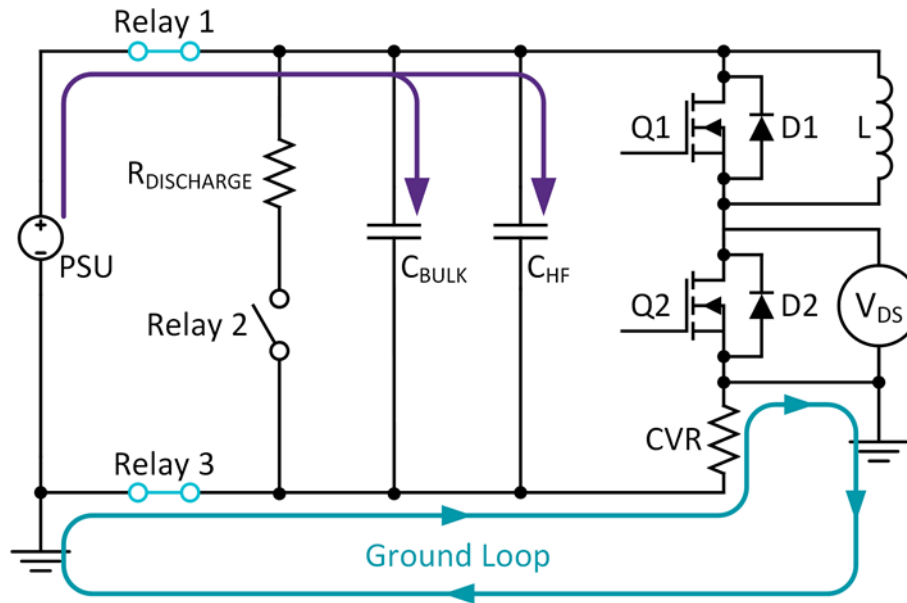
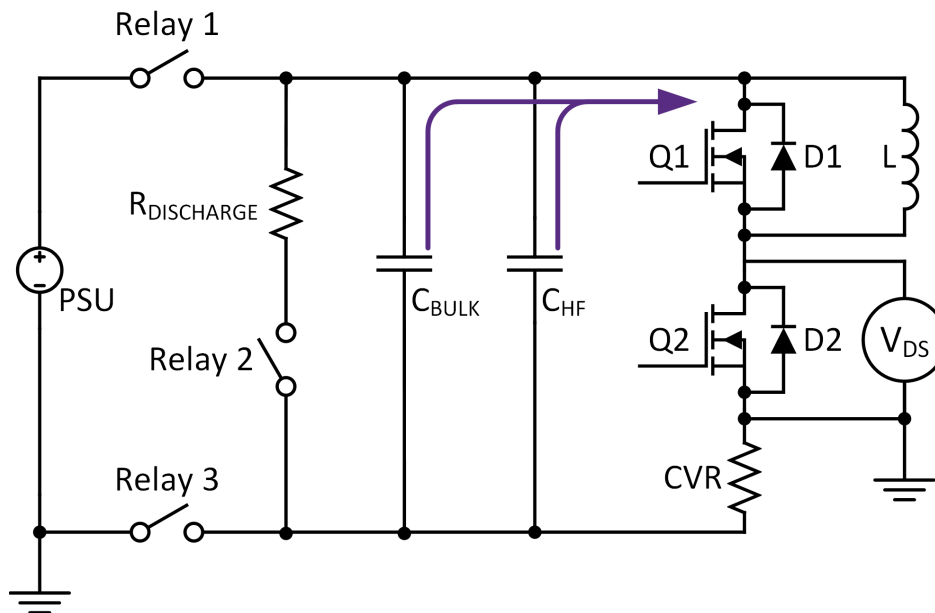
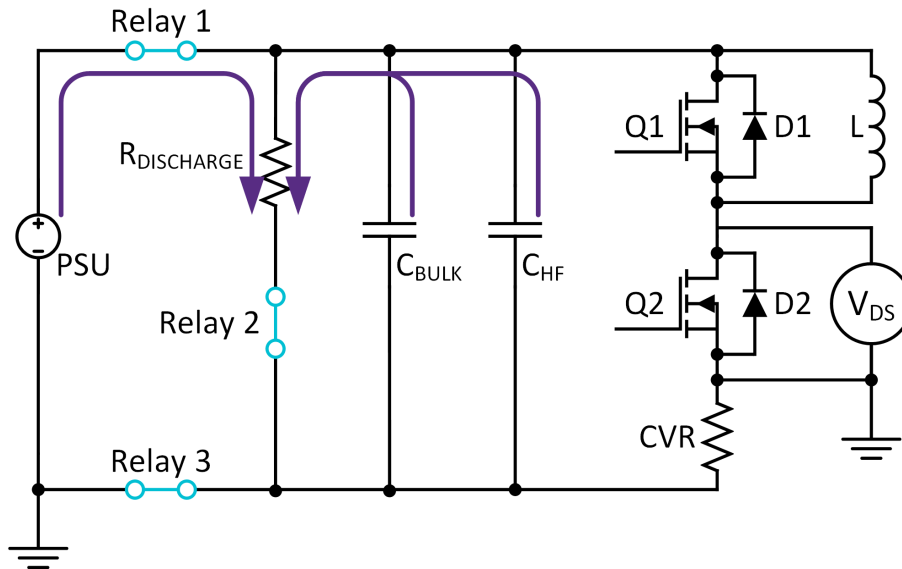

Figure 30: CIL Test Fixture Schematic During the CHARGE State
Figure 31: CIL Test Fixture Schematic During the TEST State
Figure 32: CIL test Fixture Schematic During the DISCHARGE State
Because the power supply is non-isolated, high-voltage relays are needed to open the ground loops formed due to the measurement circuitry and to charge/discharge the bulk energy storage. If ground loops are not properly removed, the resulting measurements will be significantly impacted. For safety, normally closed relays should be used in case of a loss of control power. Furthermore, a large bleed-off resistance is connected directly across the bulk capacitors on the evaluation board PCB to slowly discharge the energy storage to a safe level. Three relays are used to create the three operating states required to complete a CIL test: CHARGE, TEST and DISCHARGE. Each operating state is further explained below. The CIL test fixture schematic with the addition of the high-voltage power supply and high voltage relays is given for each respective operating state in Figure 30, Figure 31, and Figure 32.
**CHARGE:** Relay 1 and Relay 3 are CLOSED to enable charging of the bus bulk capacitors. A ground loop is formed via the non-isolated power supply return and ground reference established by the oscilloscope. Once the bus is charged, the transition to the TEST state can be made. See Figure 30.
**TEST:** All relays are OPEN, removing the ground loop and referencing the test circuit to the established ground connection made via the oscilloscope. The CIL test can then be performed. Once the test is complete, the transition to the DISCHARGE state can be made, or the transition to the CHARGE state can be made to perform additional testing without discharging the bus capacitors. See Figure 31.
**DISCHARGE:** In the final state, all relays are CLOSED to discharge the dc bus bulk capacitors and output capacitance of the high voltage power supply via the Discharge Resistor. Proper sizing of the Discharge Resistor should be considered in terms of power dissipation and the time required to discharge. See Figure 32.